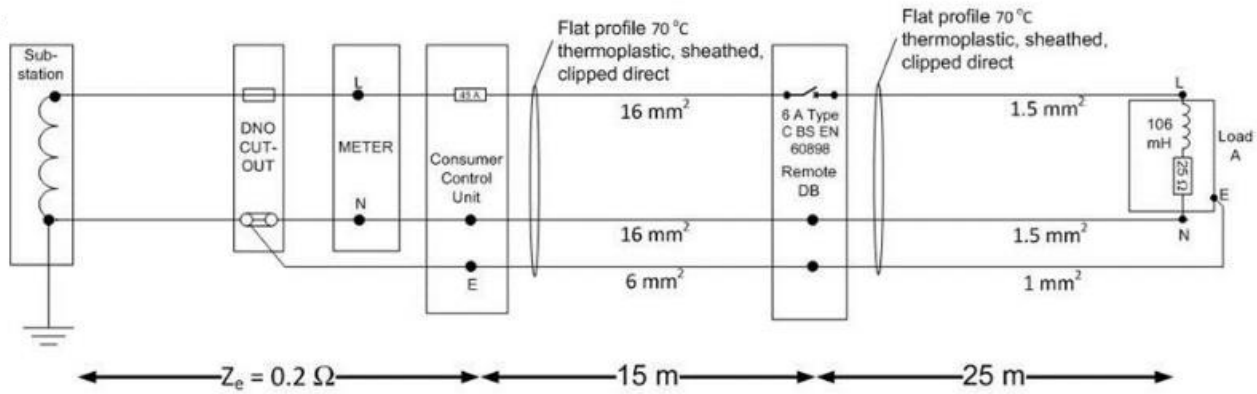

Figure 1
- a) Identify **three** important characteristics of the supply for the installation shown in Figure 1. (3 marks)
- b) Analyse the final circuit shown in Figure 1 and evaluate the suitability for loading and earth fault protection. (12 marks)